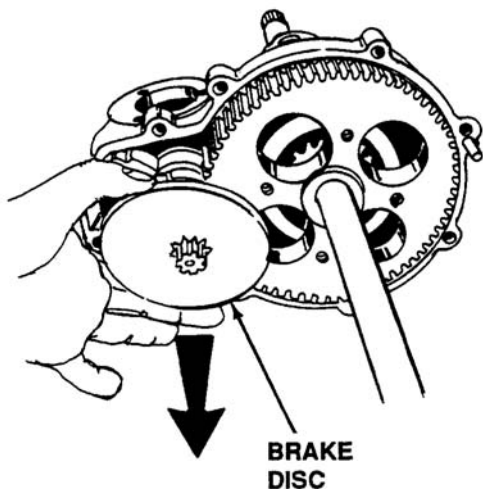

Figure 5-10. Brake Disc
11. Remove the brake disc from the drive shaft. Inspect the disc for wear and grooving on the brake surface. Replace if necessary. See Figure 5-10.